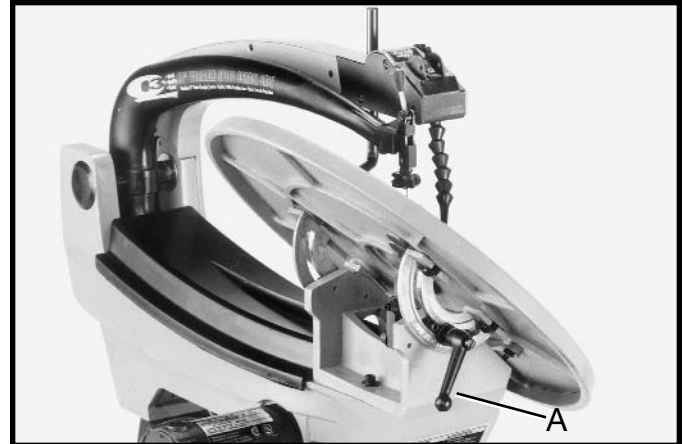

Fig. 11
1. The saw is shipped with the table tilted 45 degrees to the right, as shown in Fig. 11. To move the table to the 90 degree position, loosen lock handle (A) and rotate table all the way to the left. Then tighten lock handle (A). NOTE: Lock handle (A) is spring-loaded and can be repositioned by pulling out the handle and repositioning it on the stud located underneath the hub of the handle.